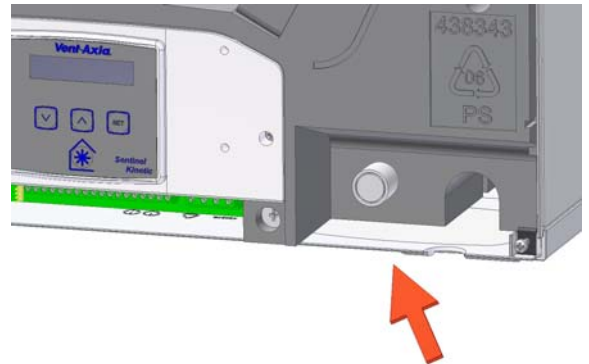

Figure 12: Condensate Stub Disk (Front of Unit)
1. For horizontal discharge, remove the front cover and locate the condensate stub at front of unit (see *Figure 12*).